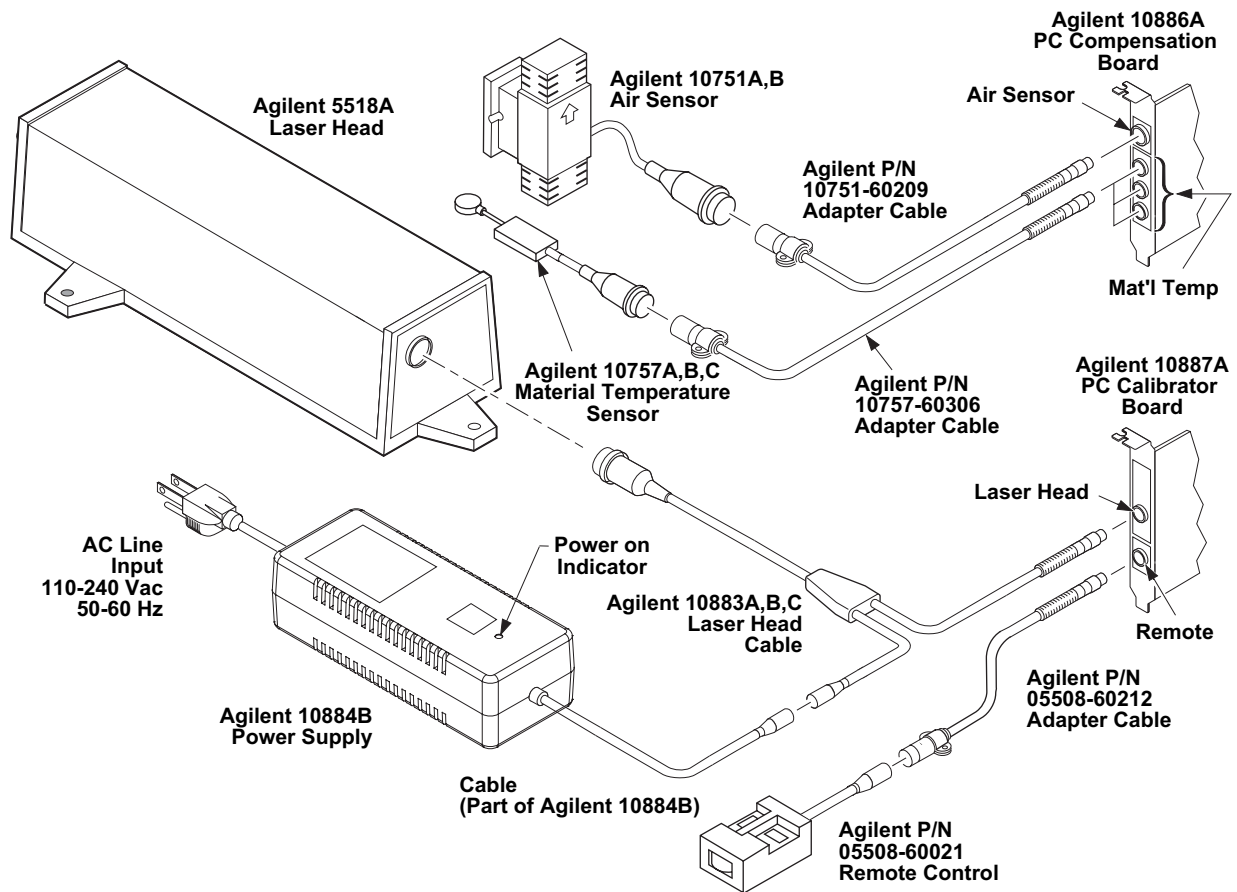

Figure 309 Installing the 10884B and 10883A/B/C
The Agilent 10884B is part of the 10883A/B/C upgrade kit which enables the laser head and environment sensors from an Agilent 5528A laser measurement system to be converted to an Agilent 5529A dynamic calibrator system. See Figure 309.
- 1 Connect the equipment as shown in Figure 309.